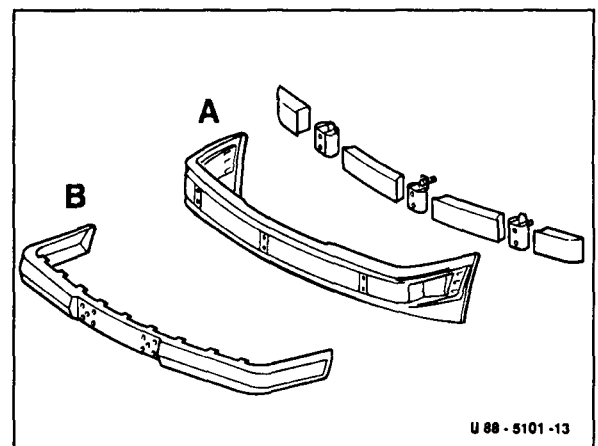

Figure 4
6. Remove rub strip (B, Figure 4) by unscrewing six Phillips head screws on left and right ends of bumper.